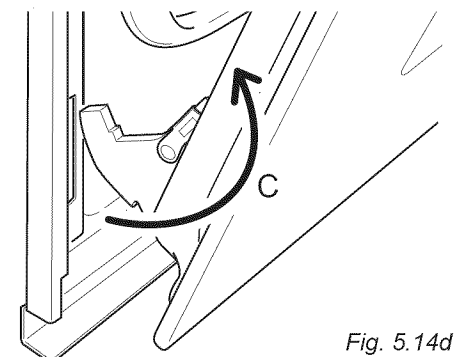

Fig. 5.14d
- Withdraw the hinge hooks from their location following arrow "C" (fig. 5.14d).